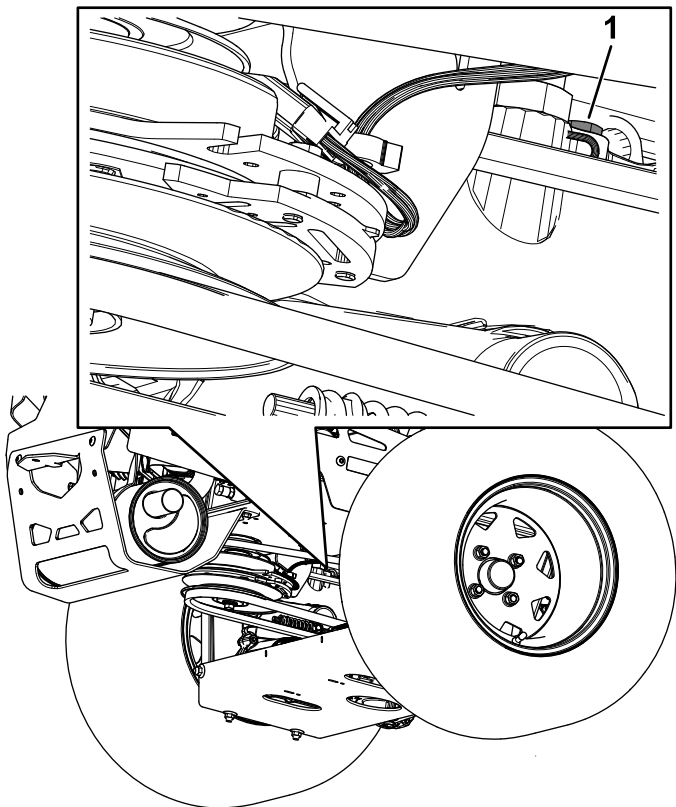

Figure 93
- For ZT 5400 Hydros, use a 7/16-inch wrench to access the vent plug from underneath the machine (Figure 93).